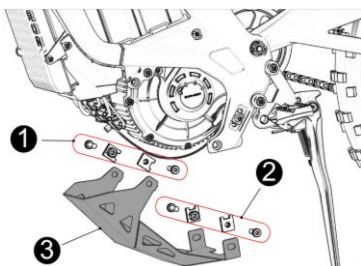

Fig 38
11.9 Dismount guard plate under electrical machine (see Fig 38)